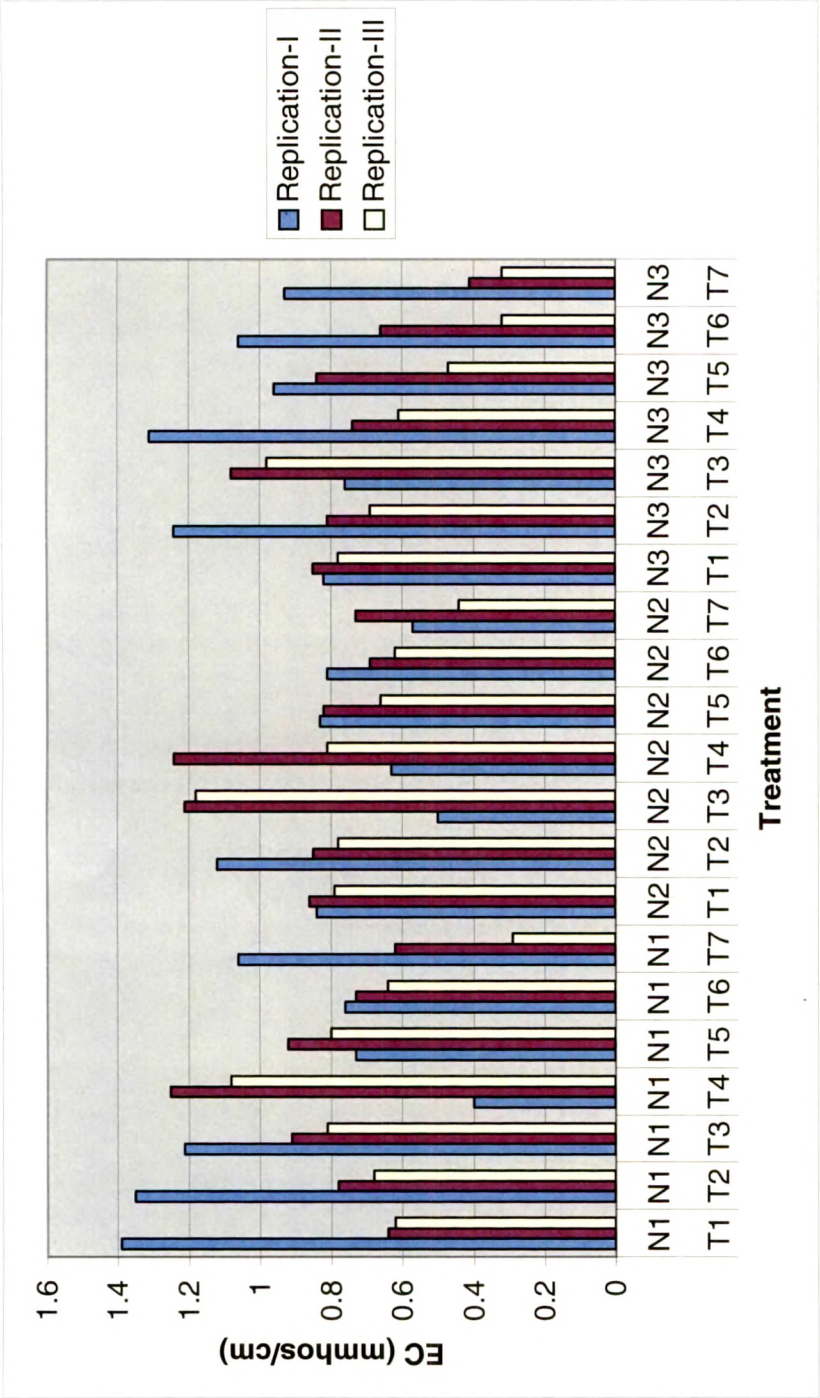

Fig. 5.81 EC Level in soil under Greengram Cultivation
Table 5.114, Table 5.115 and Table 5.116 represent analysis of Electrical Conductivity (EC) level in soil under greengram cultivation during three successive replications. Fig. 5.81 shows EC level under various treatments for each replication.